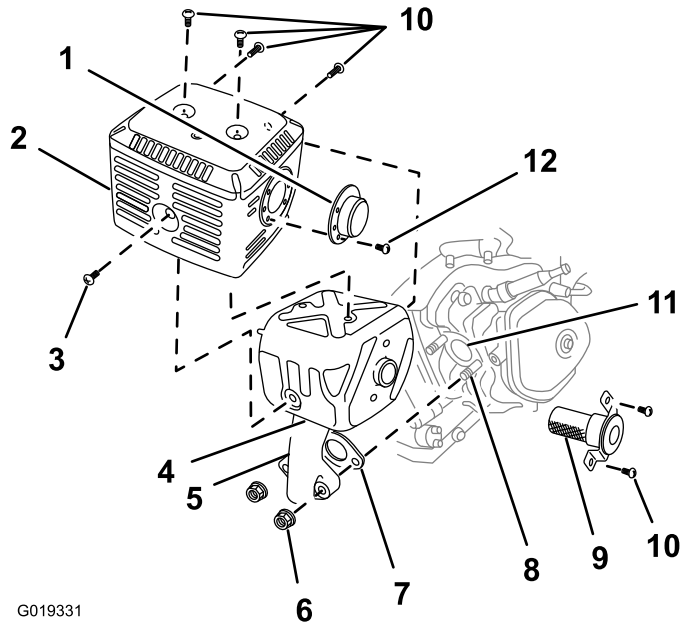

Figure 47
5. Remove the 2 nuts (8 mm) and remove the muffler from the cylinder (Figure 47).
6. Remove the 3 screws (4 mm) from the exhaust deflector, and remove the deflector (Figure 47).
- Remove the screws (5 mm and 6 mm) from the muffler protector, and remove the muffler protector (Figure 47).
- Remove the screws (4 mm) from the spark arrester, and remove the spark arrester from the muffler (Figure 47).